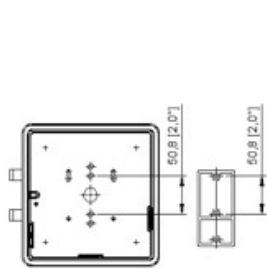
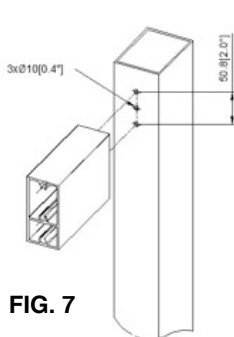

FIG. 6
FIG. 7
1. Refer to the size of the diagram to bore the holes on the lamp post. (FIG.6 and FIG.7).